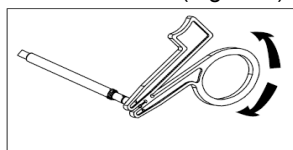

Figure 1. Fixation tool attached to terminal pin
1. Attach the fixation tool to the terminal pin of the lead. Squeeze the handles together and place the pin in the preformed groove. Release the tension on the handles to secure the terminal pin in the fixation tool (Figure 1).
1. Attach the fixation tool to the terminal pin (Figure 1).